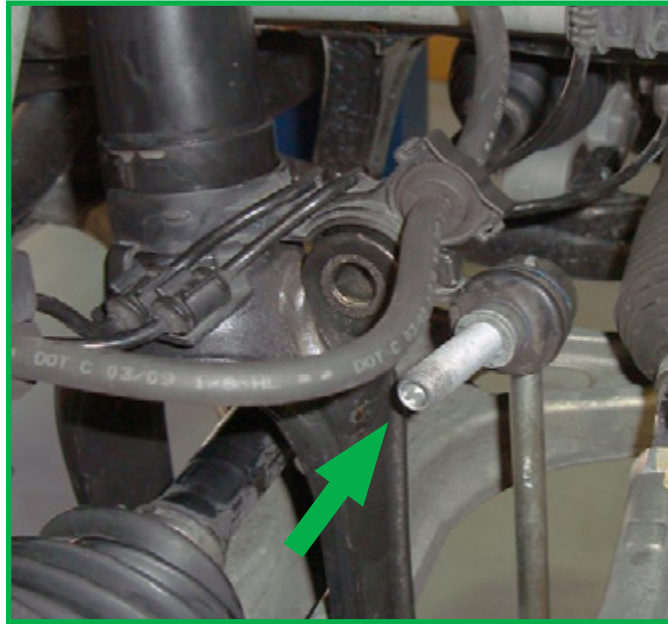

FIGURE 1
4. Disconnect the sway bar linkage. (Figure 1)